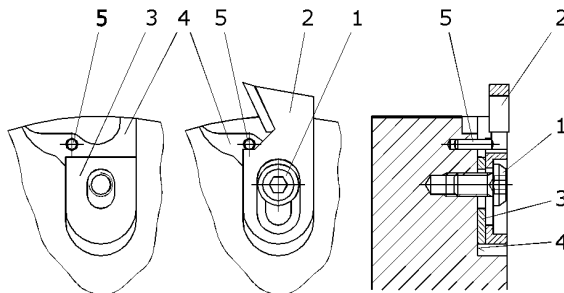

Fig. 1
(See Fig. 1)
2. Loosen the set screw (1) with an Allen key and remove it completely from the knife seat.
3. Remove the grooving knife (2) and, if necessary, the shim from the knife seat.
6. Carefully insert the new grooving knife (see Fig. 1).
7. Put the correct screw back and press the grooving knife properly on to the positioning pin (5).